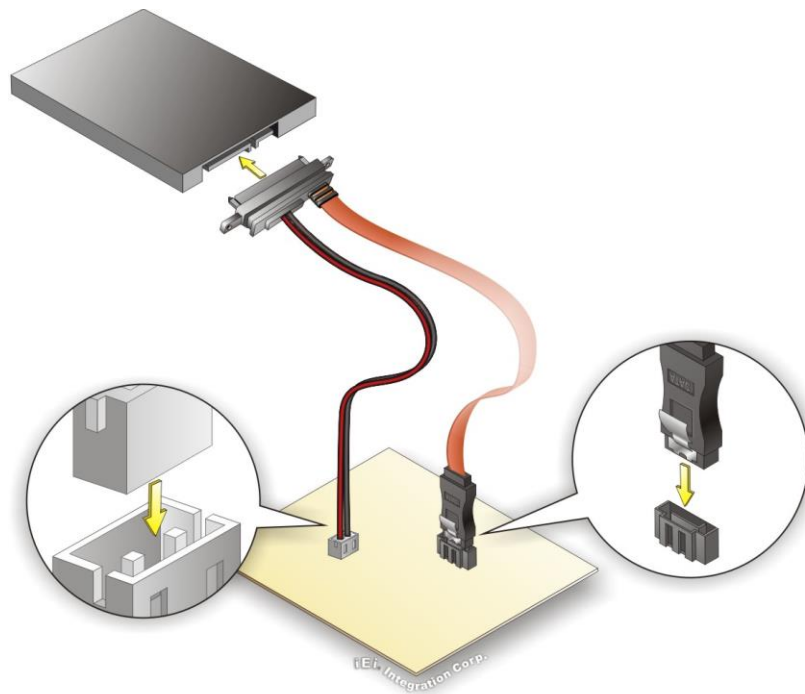

Figure 4-9: SATA Drive Cable Connection
- Step 2:** **Insert the cable connector.** Insert the cable connector into the on-board SATA drive connector and the SATA power connector. See **Figure 4-9**.